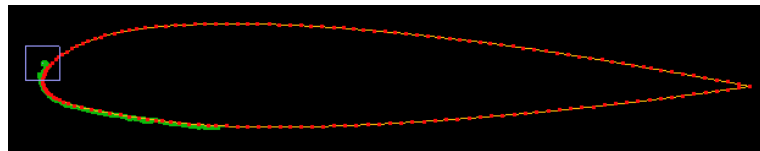

Figure 10. Geometry file: `NACA23015_2ice_scaled.elc`; clean airfoil selected.
- Notice that there are three objects: the full clean airfoil and two ice shapes. The clean airfoil is a closed element, meaning that its first and last points are at the same location (the trailing edge). The two ice shapes are open, meaning that the first and last points of the elements are not at the same location. Make sure that the clean airfoil is selected. Your geometry should look like that shown in Figure 10.